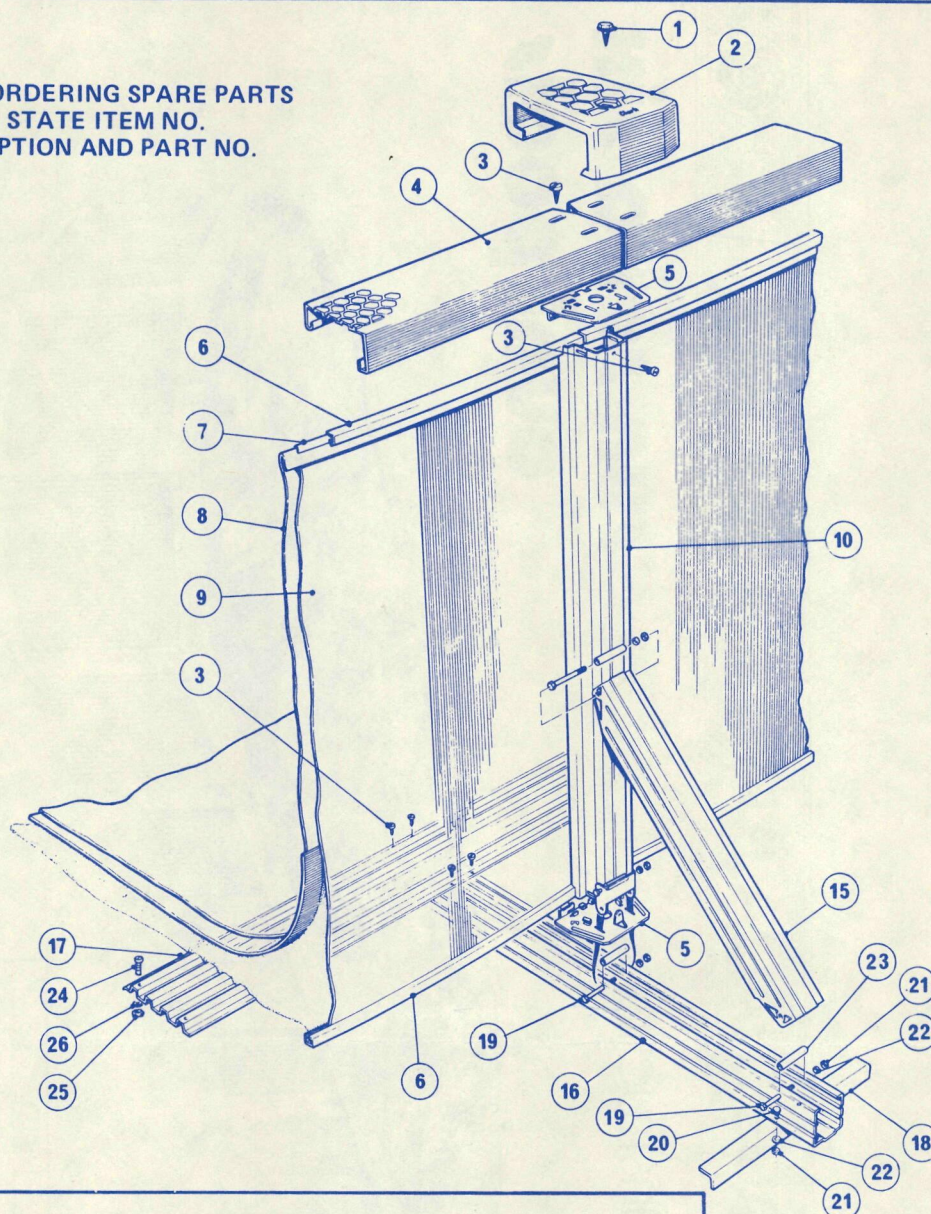
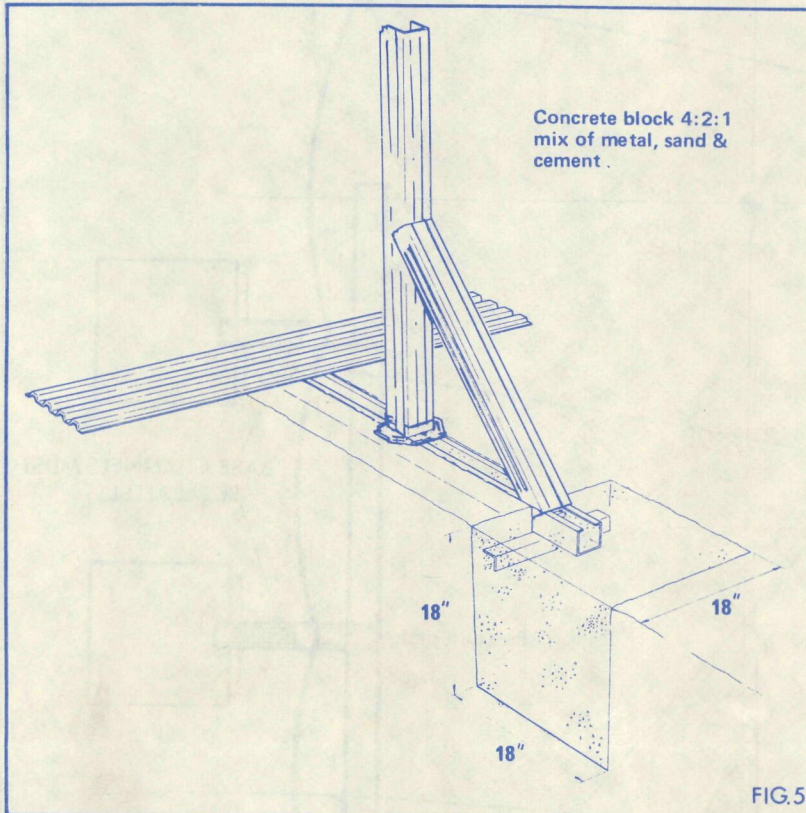

FIG.1
FIG.5
- Pre-assemble the pool side frames (See Fig. 1.)
- Using 4 self tapping screws attach pressure plates (17) to each base rail (16).
- Using round headed screws (24) connect pressure plates together.
- Mark the ground around the base channels (16) and skid members (18).
- Starting at the skid member mark, excavate a hole 18" x 18" x 18" (457 mm x 457 mm x 457 mm) (See Fig. 5).
- (j) Mix and pour concrete into large holes until at ground level. Also fill in base channel up to vertical support. See Fig.5